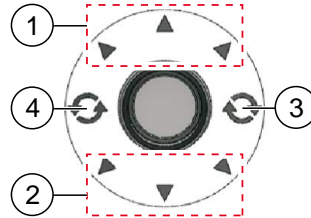

Fig. 3: Joystick functions
- Forwards / Reverse Fig. 3 (1,2)
- Rotation Fig. 3 (3,4)
- In the areas for forwards (1) or reverse motion (2), the caravan can be moved with stepless control in the selected direction.
- If the joystick is moved to the side into one of the turning areas, the caravan rotates to the right (3) or left (4) about its own axis.